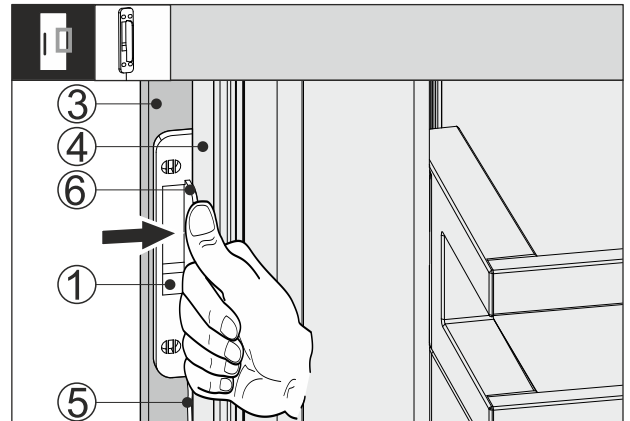

Fig. 65
- ▶ Push the knocking sensor Fig. 65 (1) between the unit front Fig. 65 (3) and the appliance door Fig. 65 (4) so that the cable Fig. 65 (5) is tensioned slightly. The knocking sensor's limit stop Fig. 65 (6) is touching the appliance door Fig. 65 (4).
- ▶ Press the knocking sensor Fig. 65 (1) to the unit front Fig. 65 (3).
- ▶ The knocking sensor Fig. 65 (1) is glued on. Gluing the knocking sensor on optimises transmission of the knocking signal.
Attaching the knocking sensor Fig. 65 (1) permanently extends the service life.
- ▶ Use the enclosed screws to screw the knocking sensor Fig. 65 (1) onto the unit front Fig. 65 (3).